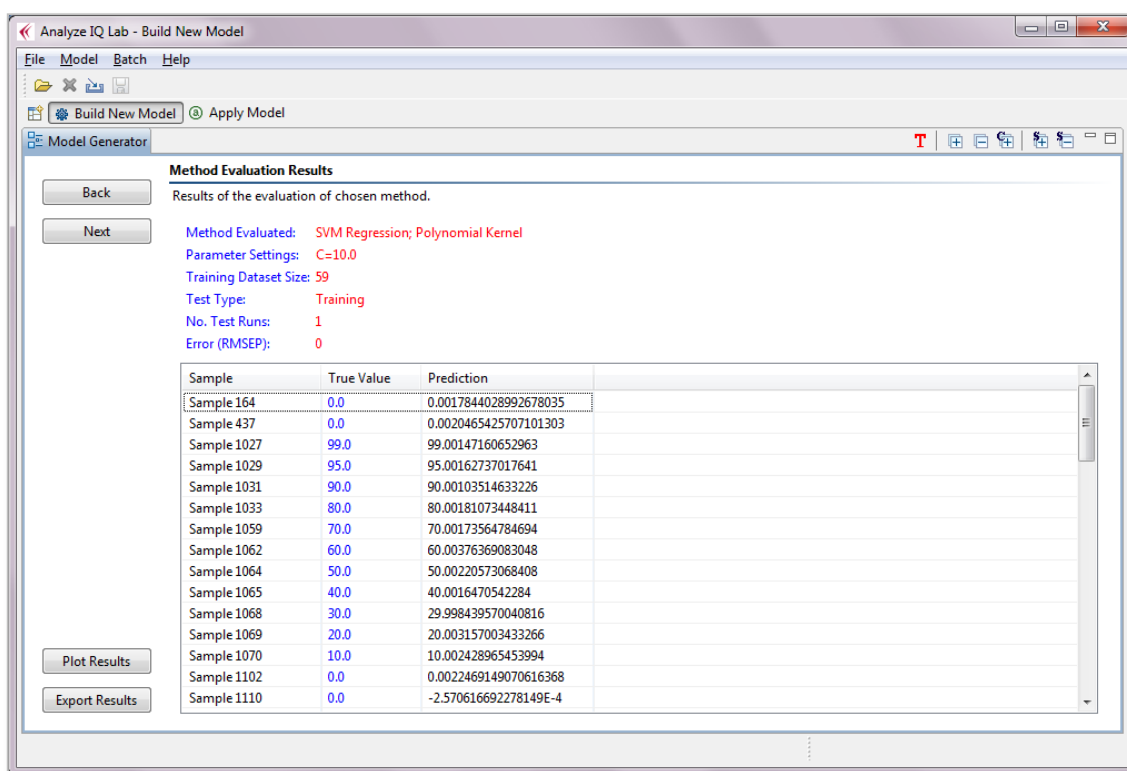
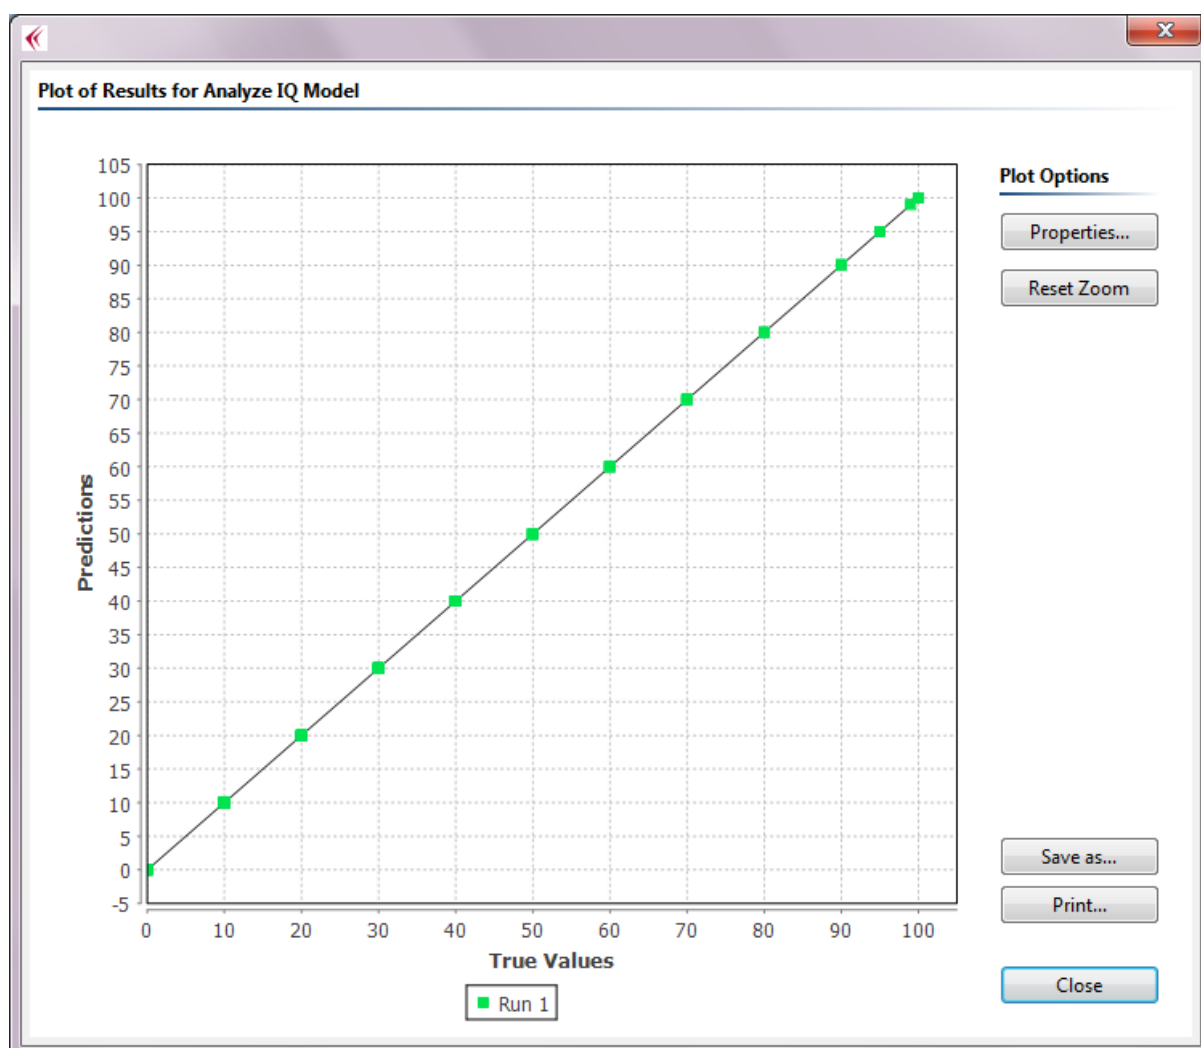

Figure 80: Building a quantification model: results of evaluation
Figure 81: Plot of results of evaluating a quantitative model
6. Click on *Next* to carry out the evaluation. The results of this evaluation are shown in Figure 80.
On the Model Evaluation Results page, as can be seen in Figure 80, there are buttons labeled *Plot Results* and *Export Results*.
When you press the *Plot Results* button, a plot window as shown in Figure 81 is opened.
In the case of the plot shown in Figure 81, there is very good agreement. Looking back at the table of results in Figure 80, it can be seen that this is indeed the case. Of course, these results are from testing the model on its training data, so it is not surprising that they are good. For further validation of the model, it should be tested using repeated cross-validation runs, and/or a hold-out dataset.